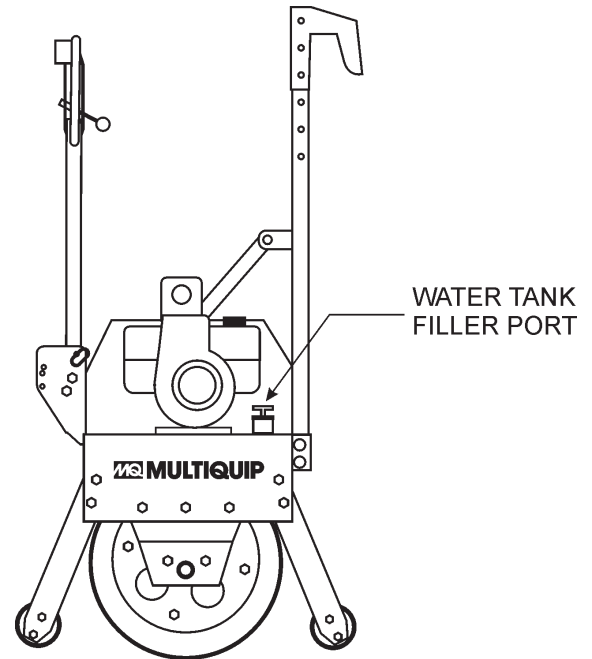

Figure 13. Water Tank Filler Port
1. Fill the water tank (Figure 13) with clean water, and verify that valve for the water tank is **closed**.